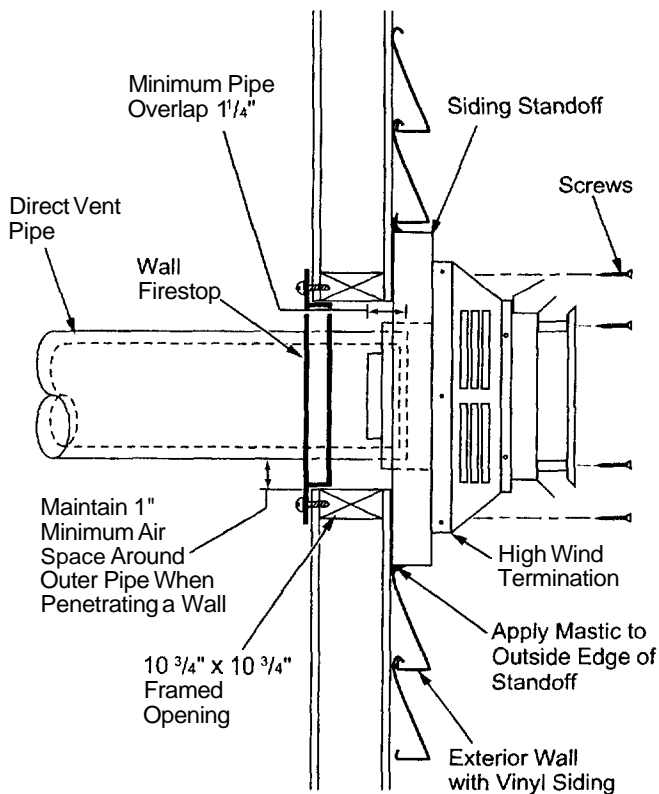

Figure 13- Typical Horizontal Termination Cap Mounting with Additional Siding Standoff Installed
9. Combustible Exterior Wall Only: Slide wall firestop against interior wall surface and attach with screws provided. See Figure 13 for horizontal termination details.